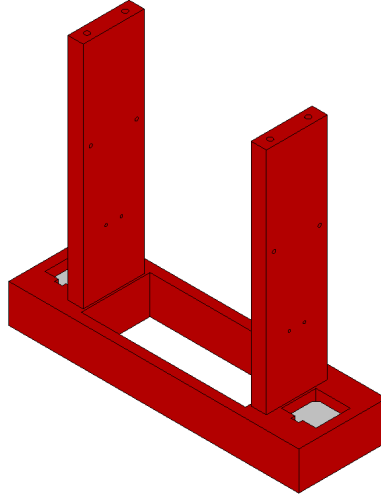

Figure 25: *Antennae mount* and the *side panel* elements of the VNA holder assembly.
3. Merge the *side panels* the *antennae mount* using four (4) M5 screws. The screws are inserted from the bottom of the *antennae mount*. The result of the assembly is shown on figure 25. Notice the orientation of the holes in the *side panel* components i.e. the position of the wide and narrow holes, with the latter being at the bottom.